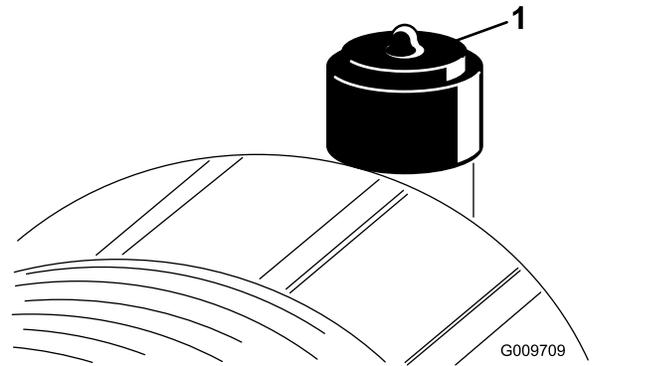

Figure 52
Service the air-cleaner element only when the restriction indicator (Figure 52) requires it. Changing the air cleaner element before it is necessary increases the chance of dirt entering the engine when you remove the element.
- Reset the restriction indicator (Figure 52) if it shows red.